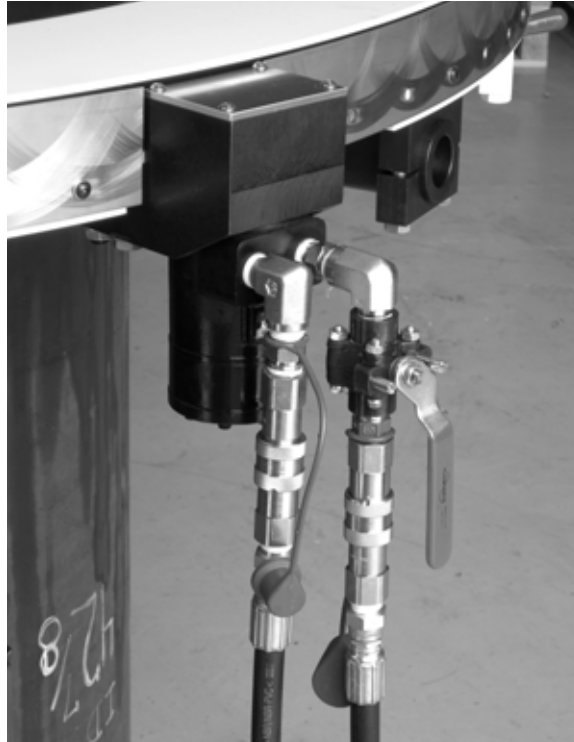

Figure 5-10. Install the hydraulic motor on the frame and tighten the two bolts (underneath) that secure it.
10. Install the hydraulic motor on the motor mount, as shown in Figure 5-10.